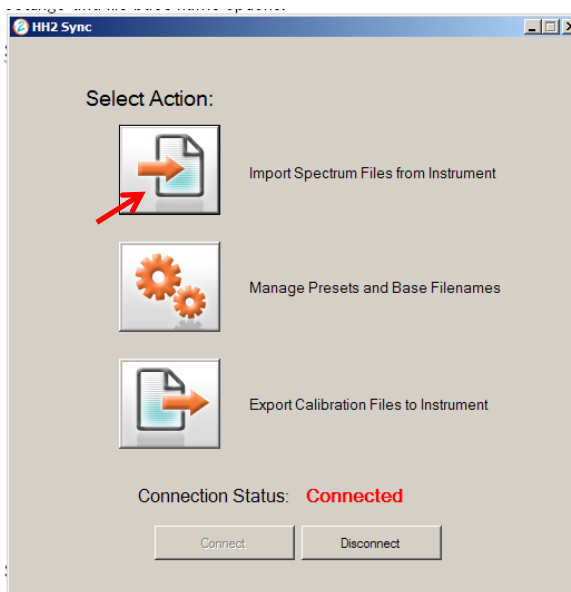

Figure 3-49: Import Files
- Step 2 Click on *Import Spectrum Files from Instrument* (Figure 3-49).